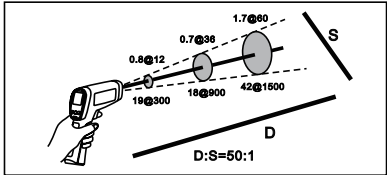

Figure 6. Distance and Spot Size
As the distance (D) from the target being measured increases, the spot size (S) of the area measured by the unit becomes larger. The spot size indicates 90% encircled energy. The maximum D:S is obtained when the Thermometer is 1000mm (100in) from the target resulting in a spot size of 20mm (2 in). See Figure 6.